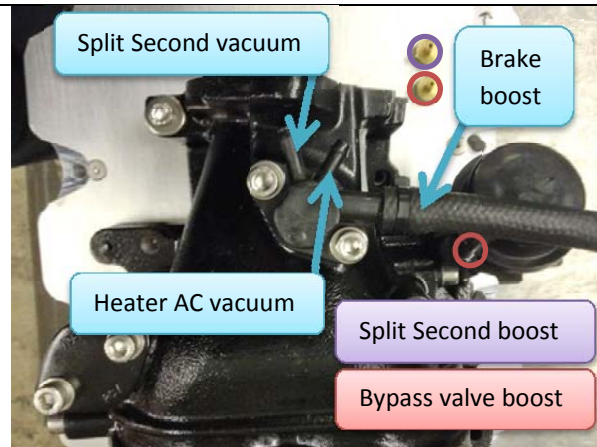

Figure 44: Vacuum ports on supercharger.
43. Attach vacuum and boost lines (Figure 44)